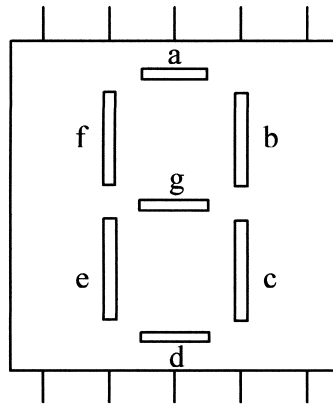

Figure 15b
- (b) **Figure 15b** below shows a seven-segment display for recording the numbers of people boarding a ship correctly. Each of the segments can be thought of as an LED which illuminates when it has a value of 1.